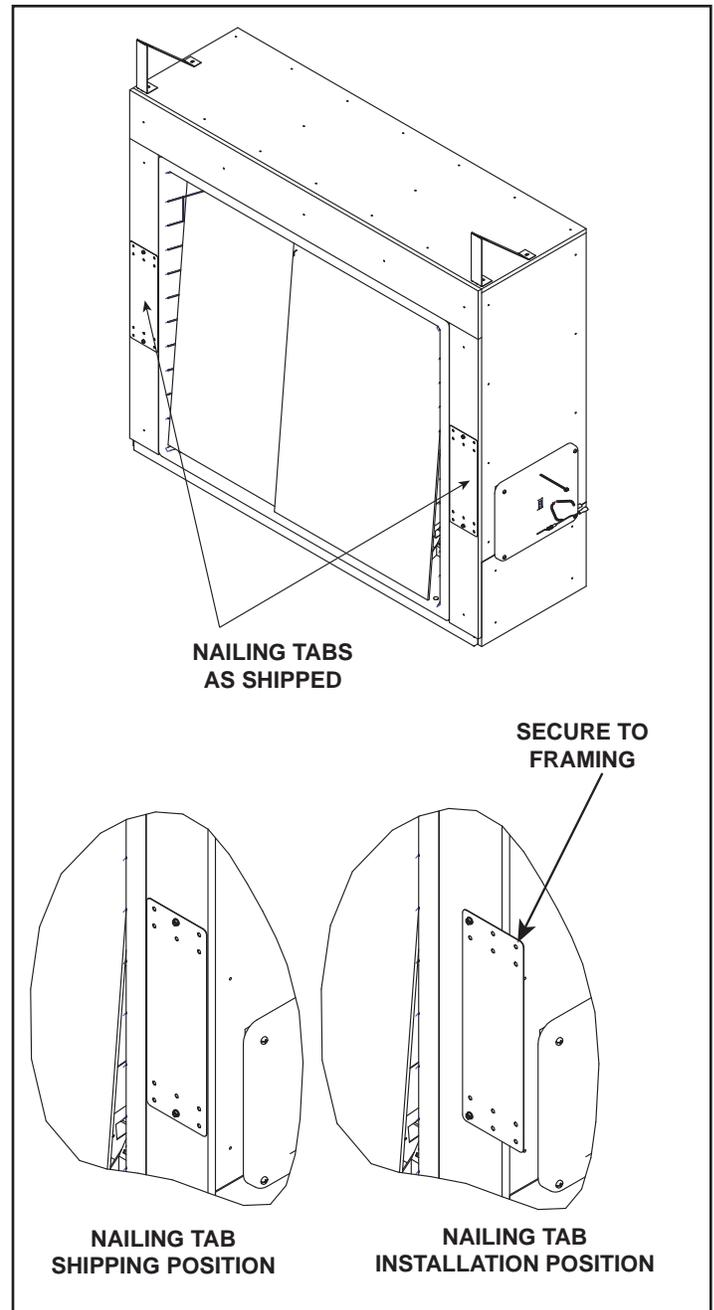

Figure 4.1 Positioning and Securing Nailing Tab
- Nailing tabs must be moved from shipping position to installation position and secured to framing. Remove screws and reposition nailing tabs as shown in Figure 4.1.